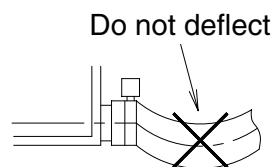

Fig. 27
- Do not deflect the drain hose (1) inside of the indoor unit. **(Refer to Fig. 27)**